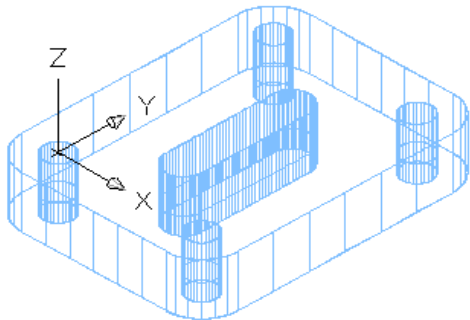

Figure Step 12
Step 12 Change the shademode to 2D Wireframe and then enter the SUBTRACT command to subtract the five inner solid from the larger solid. See Figure Step 12.